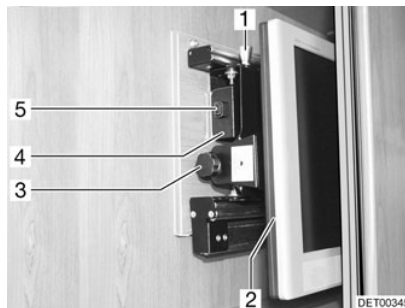

Fig. 30 TV cabinet
- Press the release knob (Fig. 30,5) and pull the holder for the flat screen forward as far as possible by the handle (Fig. 30,4).
- Pull the release knob (Fig. 30,1) and swivel the television (Fig. 30,2) to the desired position.
- Undo the knurled screw (Fig. 30,3).